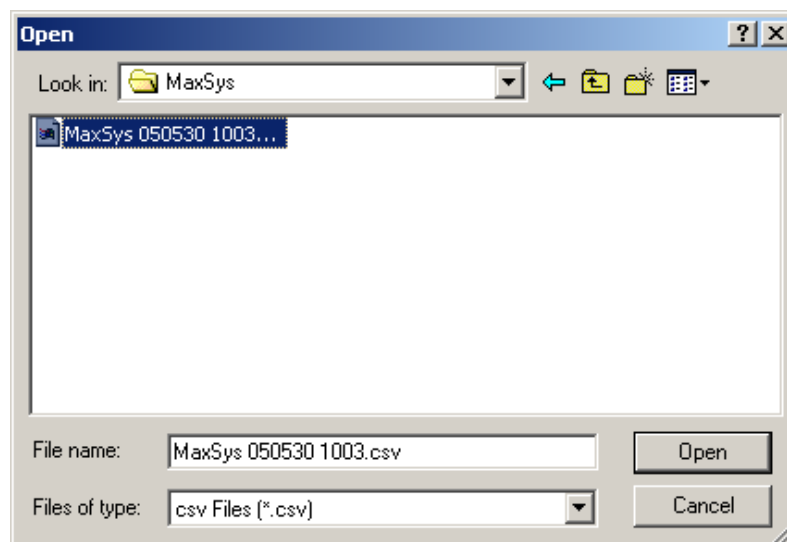

Fig. 16 Selecting the metafile
- Select the file and click **Open** (Fig. 16).